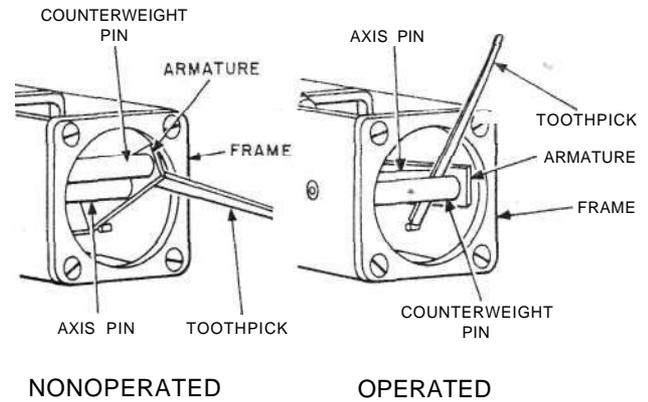

Fig. 18—Blocking 186-Type Relays
3.15 **186-Type Relays:** Fig. 18-Block relays nonoperated by inserting the flat end of a toothpick between the armature and the frame. Take care to insert the toothpick at the corner of the armature, as shown in Fig. 18, and make sure that the toothpick is resting against the circular opening of the frame at a point above its center.